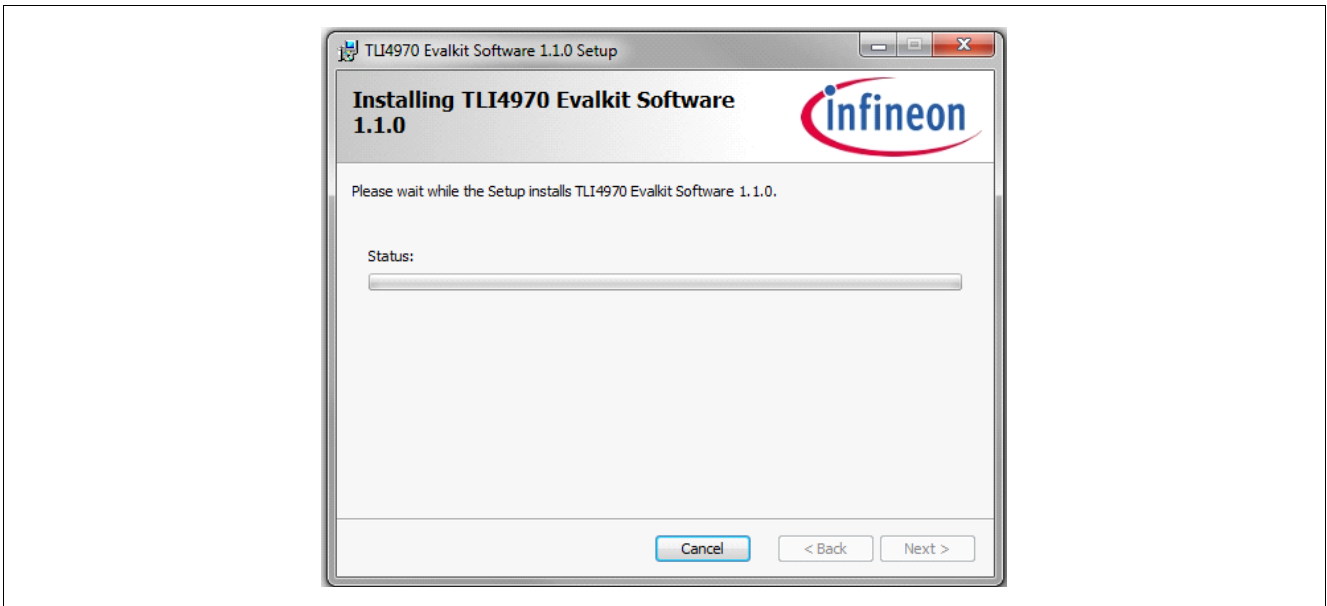

Figure 6 Evalkit Installer - Installing
5. During the installation process the PGSISI-2 as well as the Programmer Kit software will be installed, see Figure 6.